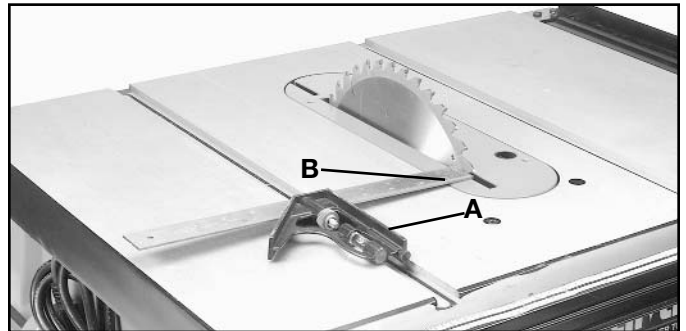

Fig. 27
4. Using a combination square, place the body (A) Fig. 27, of the square against the miter gage slot and adjust the blade (B) of the square until it just touches the marked tooth, as shown.
6. If the front and back measurements, shown in Figs. 27 and 27A, are not identical, loosen the four trunnion bolts (A) Fig. 28, underneath the saw table. Carefully grasp and move the saw frame until the blade is parallel to the miter gage slot. Then tighten the four trunnion bolts securely.